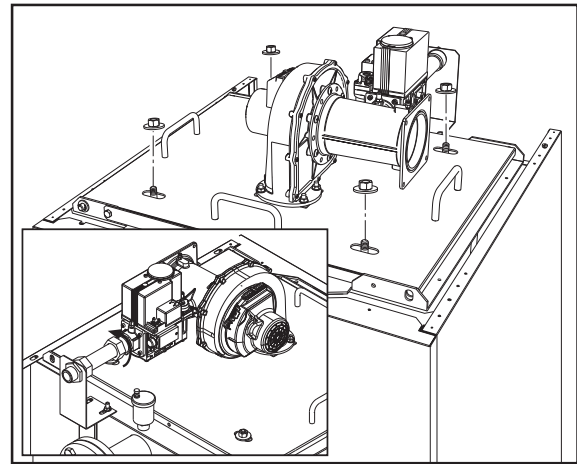

fig. 43
3. Remove the four nuts and washers (fig. 43).
4. Unscrew the gas connection (box fig. 43).
Thoroughly tighten the 4 nuts (fig. 43).